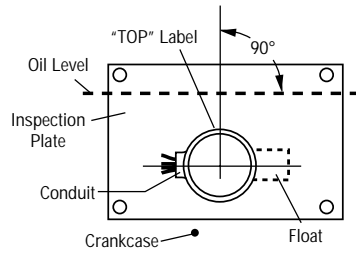

Figure 4
6. Thread the L971 switch into crankcase hole until "TOP" label is up (**Figure 4**). Be sure the float moves freely and there are no obstructions.